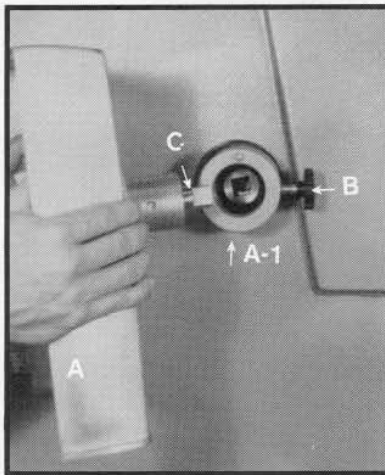

FIGURE 2
Insert shaft of Housing rear (A) in the Accessory Drive (A1). Ensure that Shaft (C) is aligned with the notch in the rear housing. Rotation of shaft may be necessary to engage drive. Secure by tightening knob [FIGURE 2 (B)]